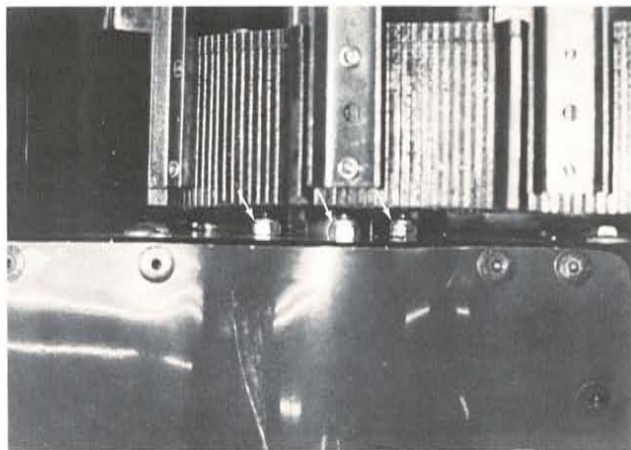

Fig. 14
14. Next remove three lock-nuts from inside the tunnel, that secure bottom of chaincase (Fig. 14).